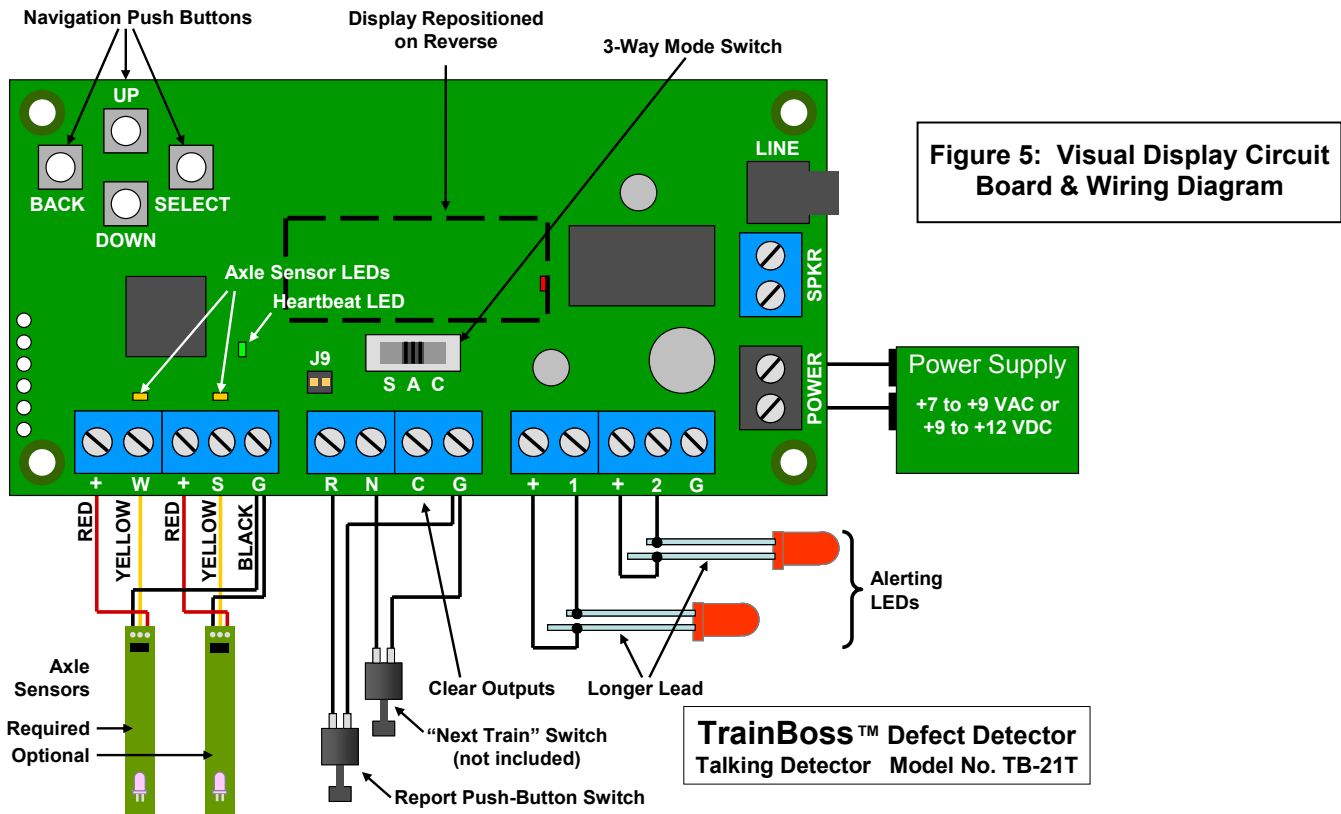

Figure 5: Visual Display Circuit Board & Wiring Diagram
Figure 5 shows how to wire your **TrainBoss™ Talking Defect Detector** for visual display reporting, along with key features on the circuit board.
1. Connect two wires from your power supply to the Defect Detector **gray** power terminals as shown in **Figure 5**. Polarity does not matter. The power supply must be 7 to 9 Volts AC or 9 to 12 Volts DC, with 250 mA capacity. Radio Shack sells an AC adapter (#273-314) that works well.
2. Connect the RED, BLACK and YELLOW wires from the Axle Sensors as shown in **Figure 5**. If you are installing the speed/length Axle Sensor, **remove Jumper J9**.
3. You can wire single Alerting LEDs as in **Figure 5**. LEDs are polarity sensitive – connect the long and short leads as shown. Visit www.bouldercreekengineering.com/manuals.php for information on how to interface other electronics to these two Alerting outputs. (LEDs are not included.)
4. The **Report** Switch triggers or repeats a defect report. Connect the push button **Report** Switch (included) as shown in **Figure 5** and mount on your fascia.
5. The **Next Train** Switch forces a defect report on the next train when “on”, which is nice for testing. If desired, connect an SPST **Next Train** Switch (not included) as shown in **Figure 5**.